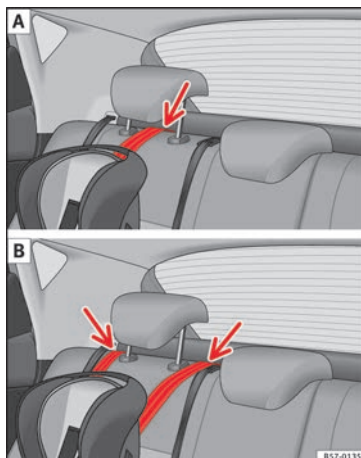

Fig. 35 Retainer strap: adjustment and assembly according to the Top Tether belt.
- Place the belt under the head restraint of the back seat » **Fig. 35** (depending on the in-